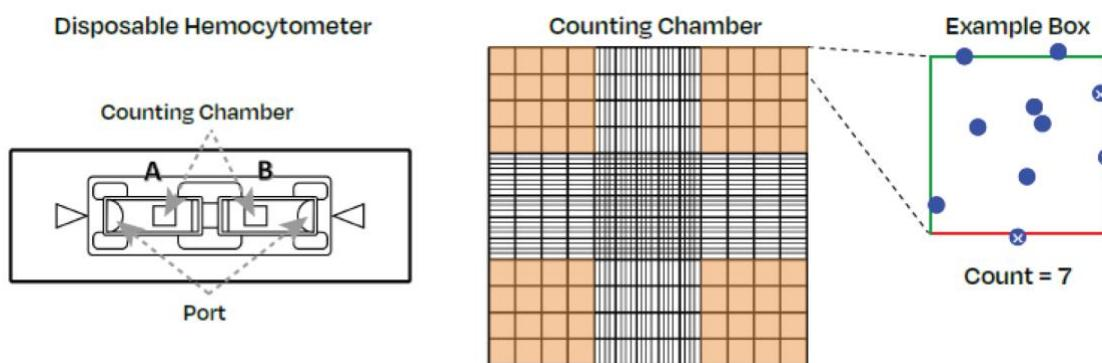

Figure 1. Cell counting example (Adapted from Honeycomb Biotechnologies, Inc.)
- Not Count any cells touching the bottom and/or right sides of each box (see Figure 1)